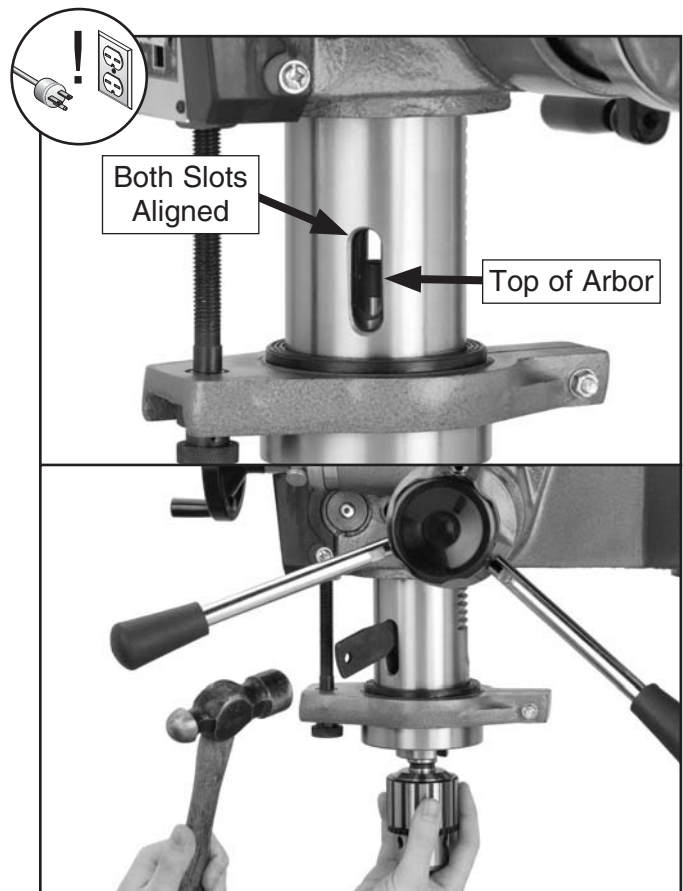

Figure 16. Using the drift key to remove the arbor.
5. Open the V-belt cover and rotate the spindle pulley until the inner drift key slot of the spindle is aligned with the quill slot, as shown in **Figure 16**. You will see the top of the arbor through the slots when they are properly aligned.
7. Hold the drill chuck with one hand and strike the drift key with a steel hammer, as shown in **Figure 16**, until the arbor releases from the spindle.